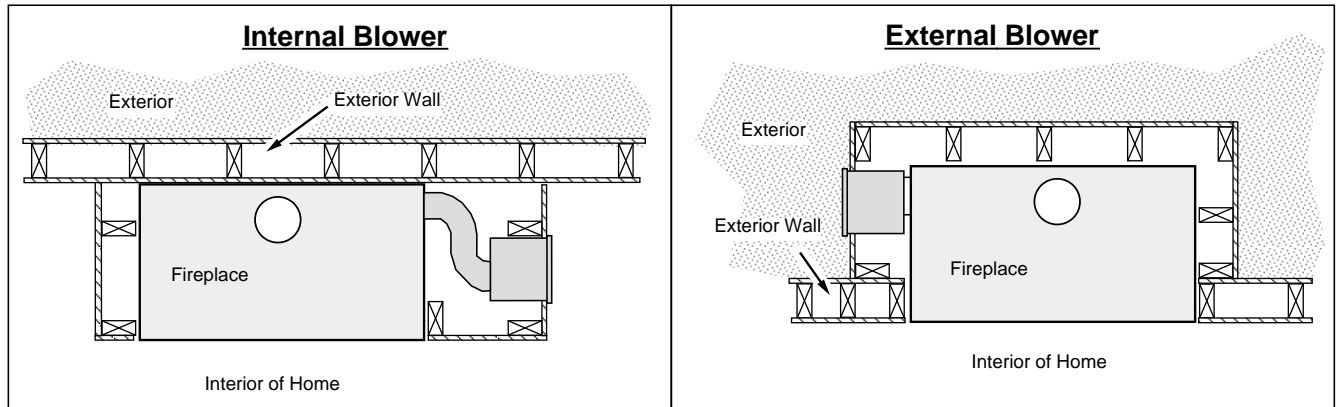

Figure 14
- The blower may be located to draw air from the interior or exterior of the home (see Figure 14).